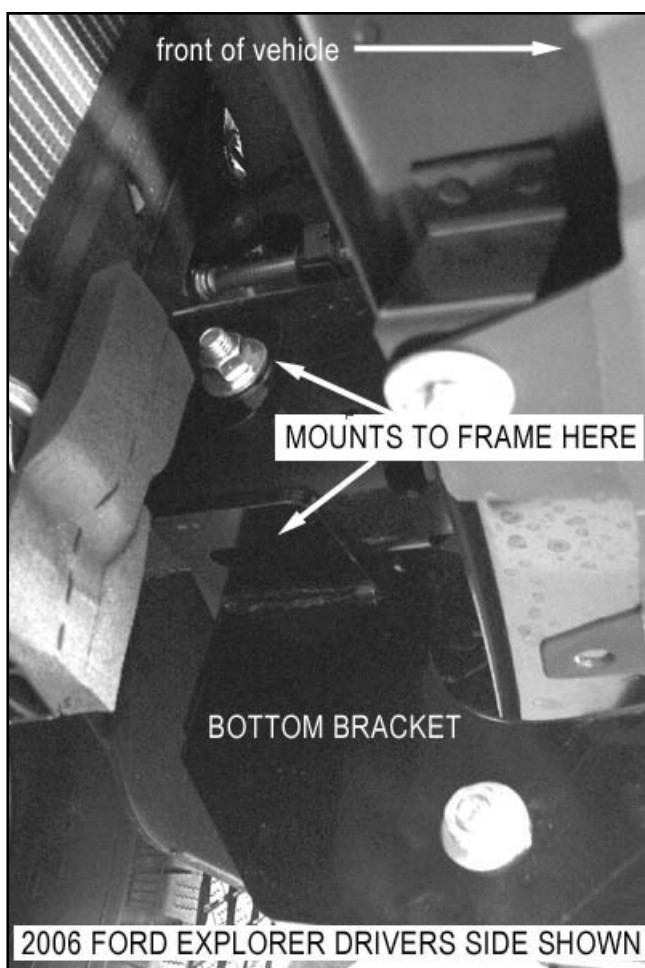
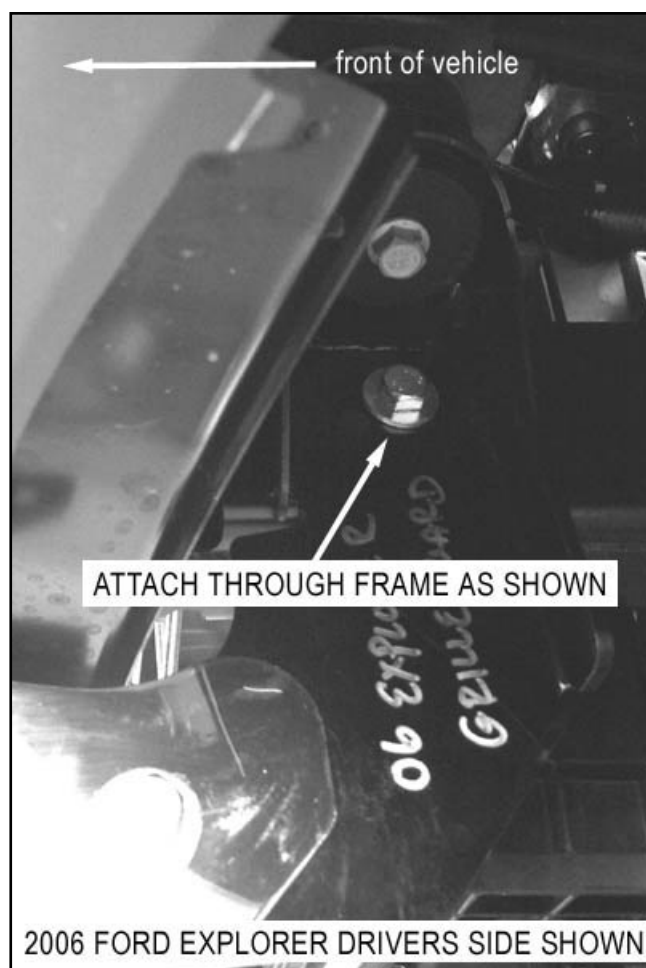

Fig 2a
Fig. 2b
2. From underneath vehicle. Locate mounting holes in frame Fig 2a and Fig 2b. Place bracket in place as shown and attach to frame using M12 x 100 nuts bolts and washers and the M12 bolt plates nuts and washers through bottom of frame rail.